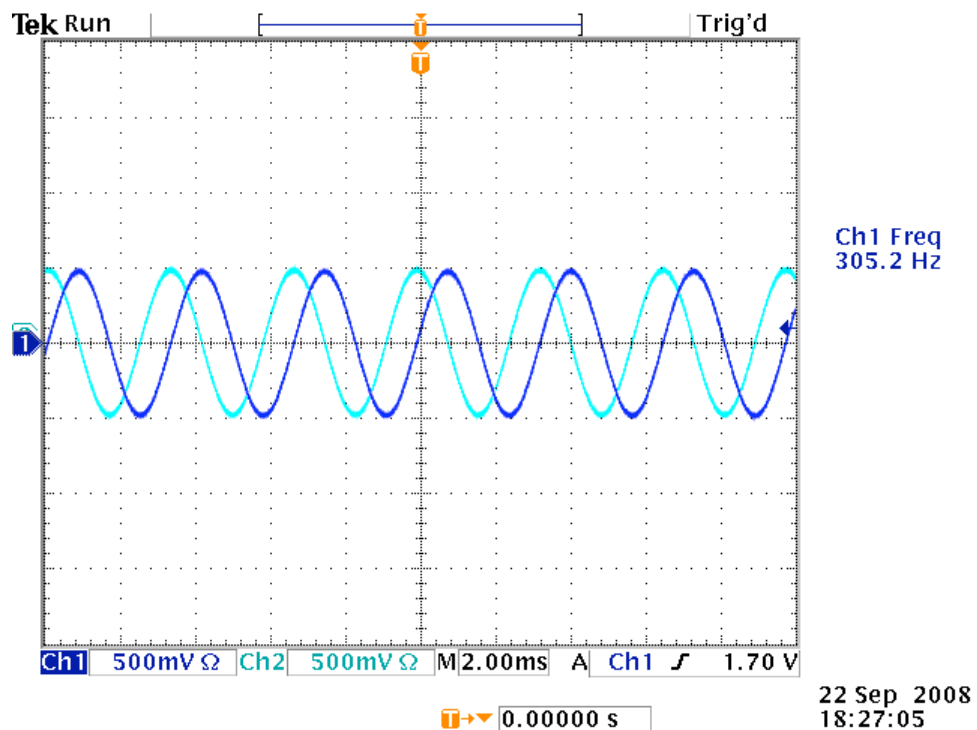

Figure 2: Oscilloscope Output
4. Press the “Autoset” button on the oscilloscope to get the settings in the ballpark of what we want. The result should be something like Figure 2.